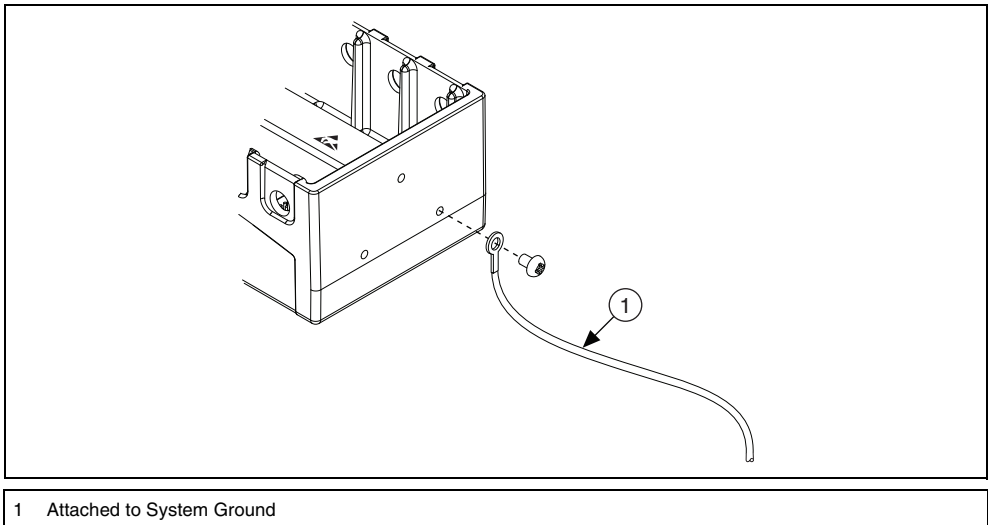

Figure 7. Ring Lug Attached to Ground Terminal
3. Attach a ring lug to a 14 AWG (1.6 mm) wire. Connect the ring lug to the ground terminal on the side of the chassis using the ground screw. Attach the other end of the wire to the system safety ground as shown in Figure 7.